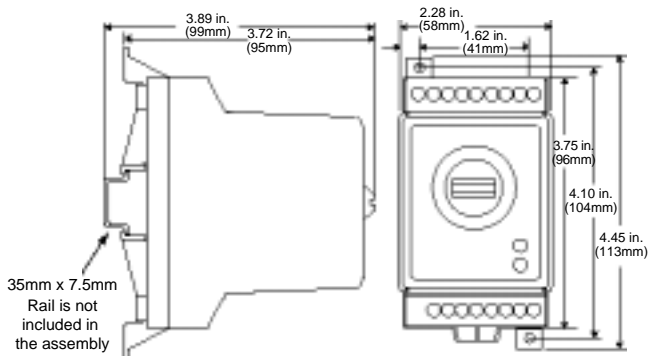

Figure 2a — Series 103 dimensions.
2. Drill two 0.19 in. (5mm) diameter holes in the desired panel location. See Figure 2a for hole locations.